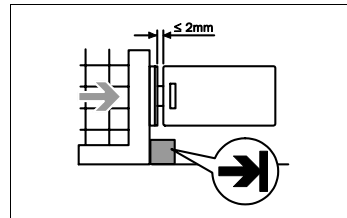

Fig. 2: Mounting
- Fit an additional stop for moving parts of the guard (see Fig. 2).